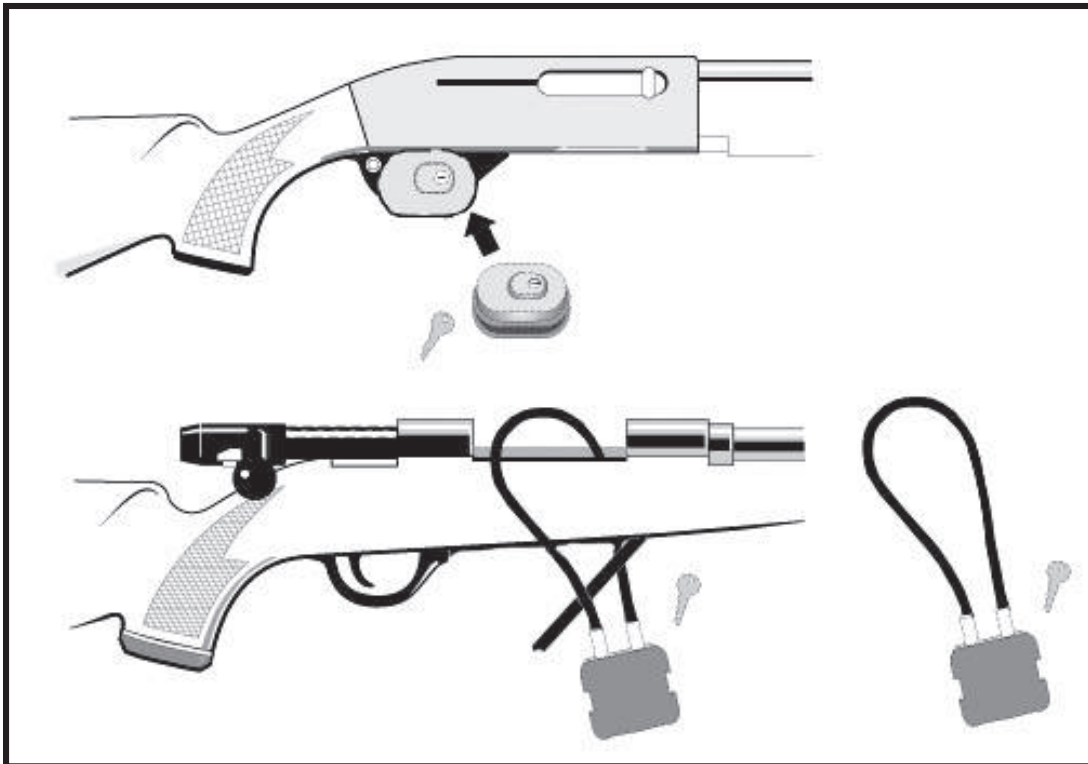

Figure 18. Various Firearm Locking Devices
- a. Secure locking devices (Figure 18) prevent a firearm from being fired. To work effectively, they must be installed properly. Please note that not all secure locking devices are compatible with each firearm.
- a. A cartridge is the ammunition used in a rifle or a handgun. Two kinds of cartridges commonly available are: rim-fire and centre-fire. These terms describe where the primer is located at the base of the cartridge casing. They also describe where the firing pin strikes (Figure 18).